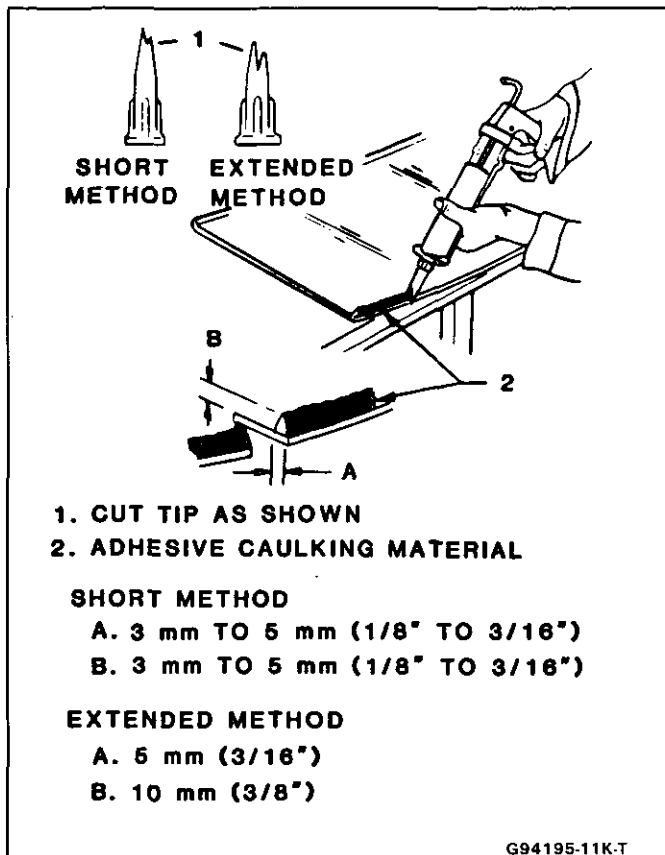

Fig. 7-Applying Adhesive Material
**Prep and Sealing (Figure 7)**
### Prep and Sealing (Figure 7)
3. Enlarge nozzle furnished in kit as shown in (Figure 7).
7. Apply a smooth continuous bead of adhesive 10 mm (3/8") high by 5 mm (3/16") wide completely around inside edge of glass (Fig. 7). Tip bead of adhesive slightly inboard.